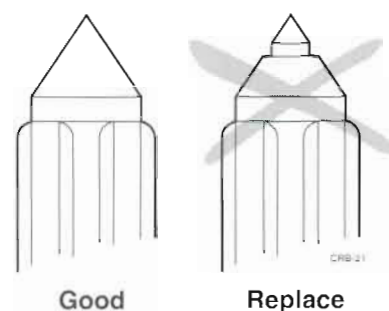

Figure 3.22 Check Inlet Valve Tip for Wear
- Use a magnifying glass to inspect the inlet valve tip for signs of measureable wear, and replace if noted (Figure 3.22)